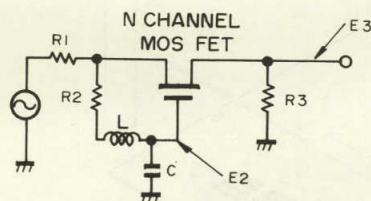
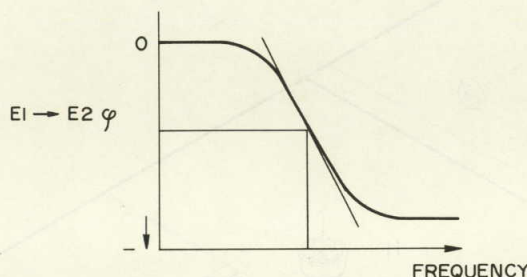
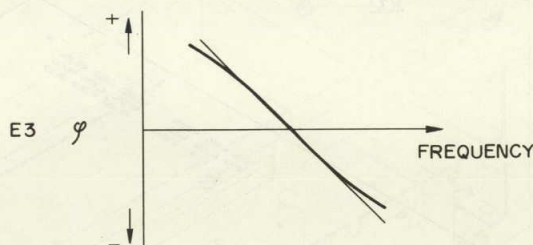
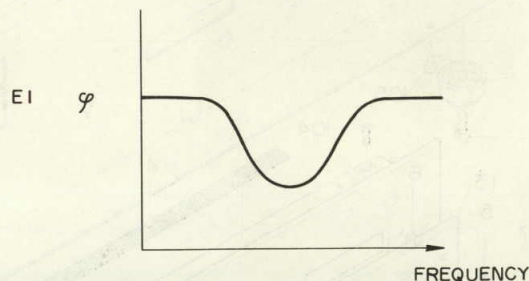

Fig. 8
Fig. 12
Fig. 13
Fig. 14
Fig. 8 shows the basic circuit of the demodulator. The values of the coil and capacitor are such that the resonance point is set to the intermediate frequency. Therefore, the phase of E2 is delayed  $90^\circ$  at the intermediate frequency (10.7 MHz) with respect to E1. Fig. 12 shows the phase of E2 with respect to E1. In the vicinity of this 10.7 MHz frequency, the phase of E2 is delayed in proportion to the frequency.
Fig. 13 shows a detail of Fig. 12. It indicates that the phase variation based on the coil and capacitor (LC) is not strictly linear, that the variation in the phase per unit frequency is highest at the resonance point (10.7 MHz) and that the further it is removed from this resonance point on either side, the smaller it becomes. For this reason, the frequency versus E3 DC potential is as shown in Fig. 13.
E1 is divided by the R1 and R2 LC series resonance circuit and obtained. This means that, as shown in Fig. 14, it is at its minimum at the LC resonance point. Therefore, if the E2 phase lag is linear with respect to the frequency, the E3 DC potential will be as shown in Fig. 15, the non-linearity of the phase lag in Fig. 13 is compensated for, and overall linearity is produced.